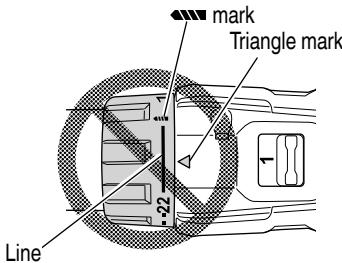

Fig. 13
- Do not use with the clutch dial set at the line between the number "22" and the drill mark "mark". Doing so may cause damage (See Fig. 13).